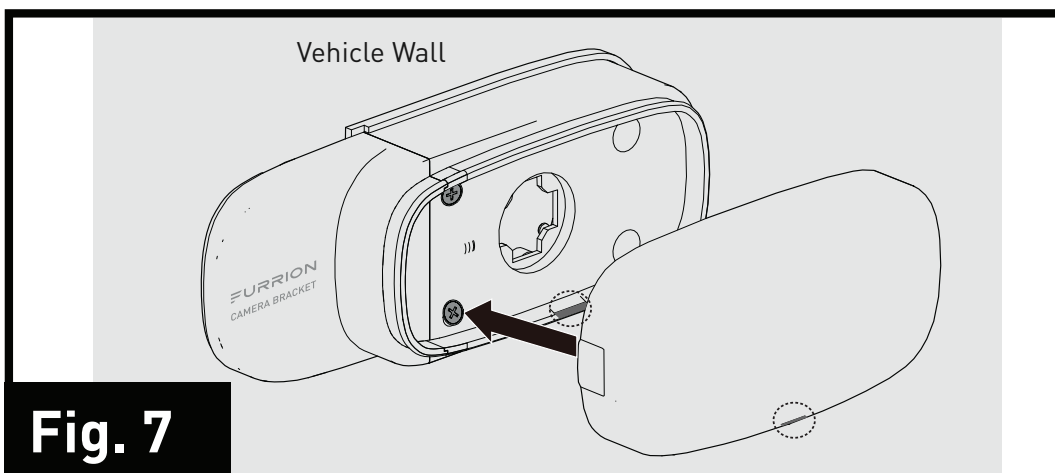

Fig. 7
7. Replace the lens cover over the traffic light base and press until a “click” is heard. The camera is now fully installed onto the vehicle. (Fig. 7)